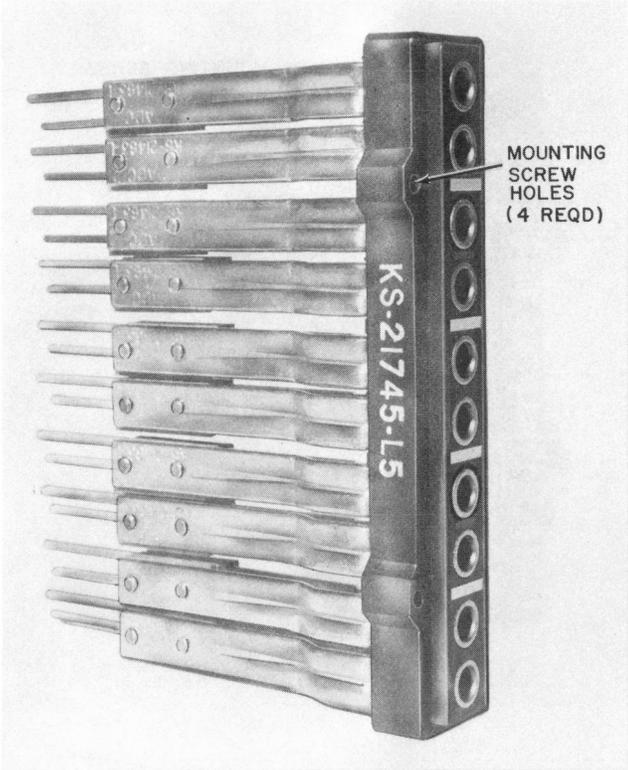

Fig. 23—Jack Module with Jacks Installed
4.05 To replace the complete jack module shown in Figure 23, determine the type of test/talk panel and refer to the appropriate paragraph, 3.02 through 3.07, to determine the means of accessing the internal components. Instructions for removal of the jack module follows:
- (1) Mark and tag each wire to be replaced.
- (2) Remove the wires from the jacks with a wire unwrapping tool.
- (3) Remove the four 2-56 by 3/16-inch mounting screws as shown in Figure 23.